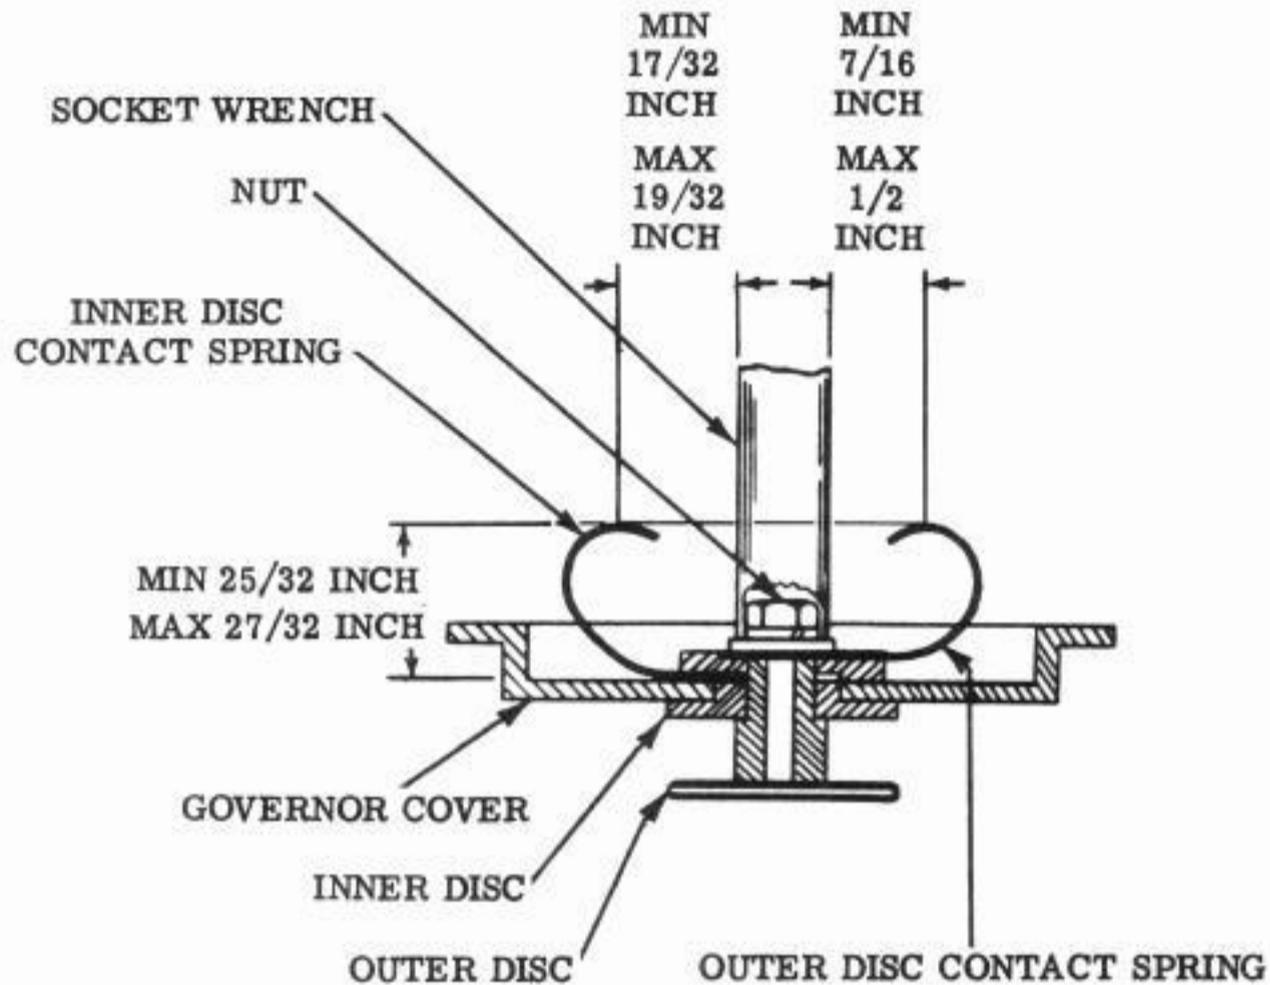

Figure 8 - Governor Cover Contact Spring Disc Assembly
To Adjust: Bend the springs. (See Figure 8.)
To Adjust: Bend the spring. Recheck (1). (See Figure 8.)
(3) **Outer-disc Contact Spring:** With the socket wrench in position as in (2), the distance from the outer surface of the wrench to a point where the tape gauge touches the curved surface of the outer-disc contact spring shall be minimum $7/16$ inch, maximum $1/2$ inch. To gauge, place the end of the TP95960 tape gauge against the outer surface of the wrench so that the edge of the $1/32$ -inch scale is resting against the curved surface of the outer-disc contact spring.
brushes. Gauge by eye. When it is necessary to clean the discs, a KS-2423 cloth, wrapped around an orange stick and moistened with KS-19578, List 1 trichloroethane, shall be held on each disc while the motor is being rotated by hand and the brushes have been removed. If the discs are pitted or burned, a piece of 400A Aloxite wrapped around an orange stick shall be held against each disc while the motor is being rotated by hand. Badly grooved discs shall be replaced. (See Figure 8.)